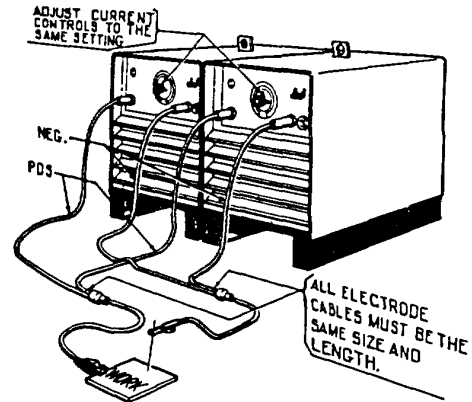

Figure 7 - Parallel Connections
- (1) Connect a work clamp to one of the unused ends of one of the cables. Connect an electrode holder to the unused end of the other welding cable. The method of connecting the cables to the work clamp and electrode holder will depend on the manufacturer design. Follow the manufacturer instructions carefully.
- (2) On the bottom part of the control panel are three (two on the 600 ampere model) twistlock receptacles for connecting the welding jack plugs.
- a. Two or more d-c arc welding machines may be connected in parallel for increased output welding current in excess of the capabilities of one machine. To accomplish this, see Figure 7 and proceed with connections as follows:
- (1) Connect separate welding cables of adequate size from the **Positive** twistlock receptacle of each welding machine to the Work. This connection would be for straight polarity welding. Remember, keep welding cables as short as possible.
- (2) Connect separate welding cables of adequate size from the **Negative** twistlock receptacles of each welding machine to